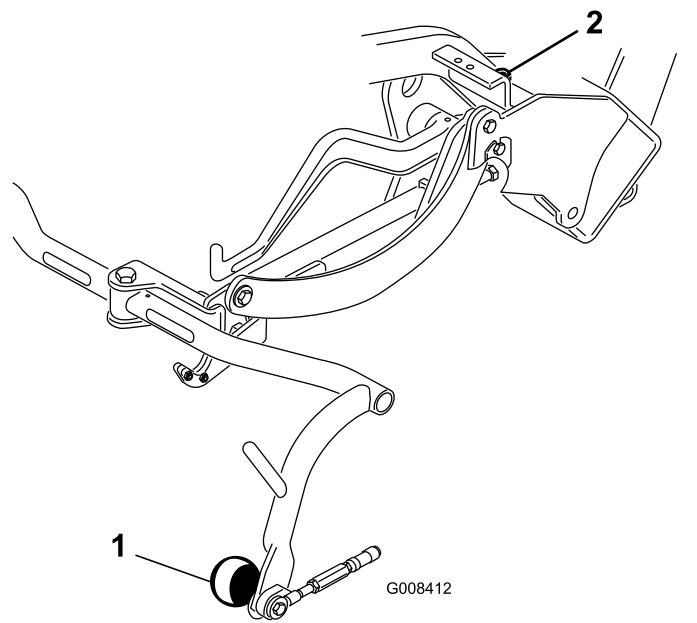

Figure 7
- If you must adjust the clearance, loosen the jam nut on the carrier frame stop screw (Figure 7) and rotate the screw up or down to raise or